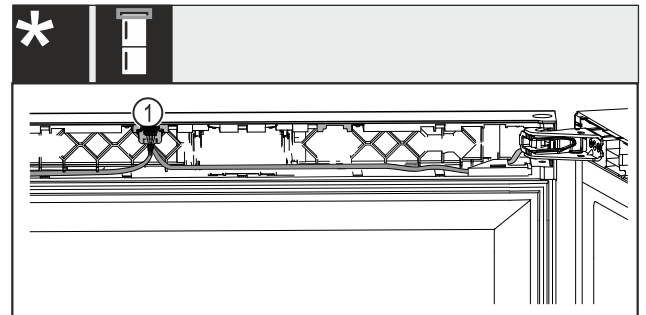

Fig. 39 Wine-freezer combinations
- ▶ Snap the plug Fig. 39 (1) into the guide.